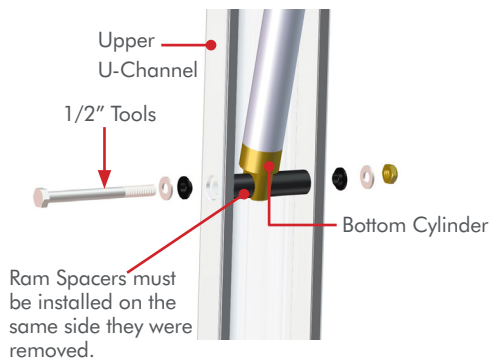

Figure 1
STEP 1 Remove the Hardware that attaches the **Upper Cylinder Fitting** to the U-Channel using a 1/2" Socket and wrench. **FIG 1**